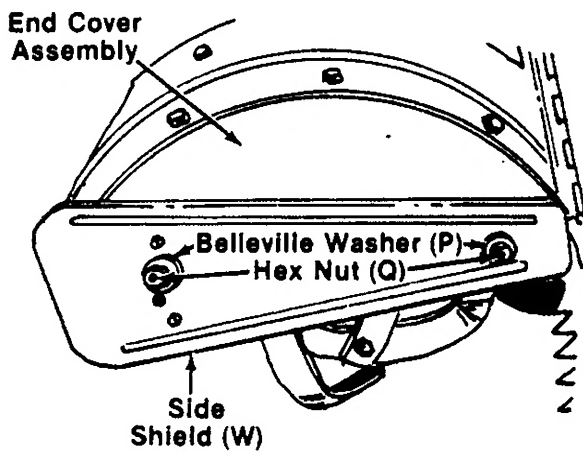

FIGURE 5.
Mount side shields (W) over the weld bolts on the end cover assemblies. Secure with belleville washers (P) and hex nuts (Q). See figure 5.